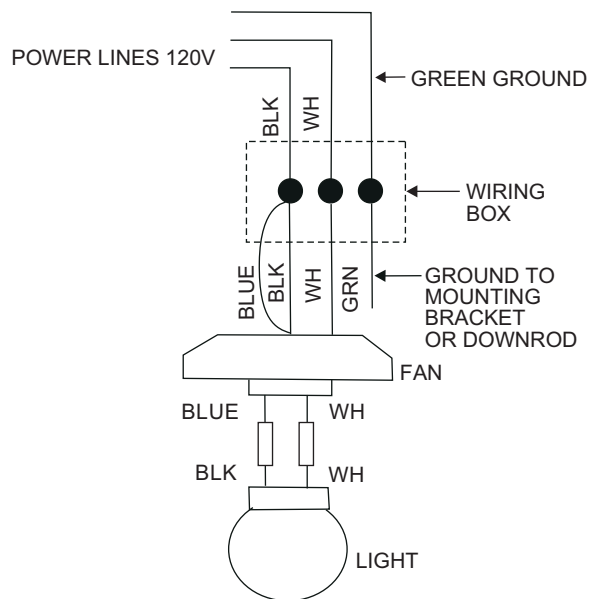

Figure 11
**Step 1.** Connect the fan supply (black) wire and light supply (blue) wire to the black household supply wire as shown in Figure 11.